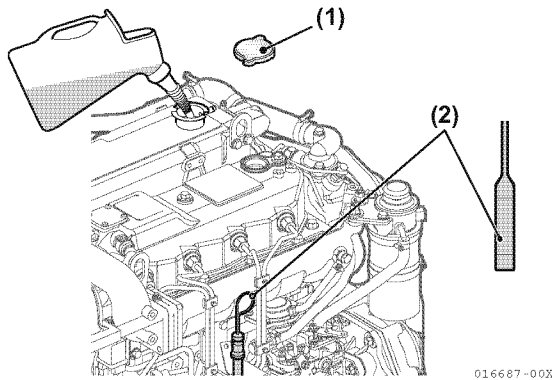
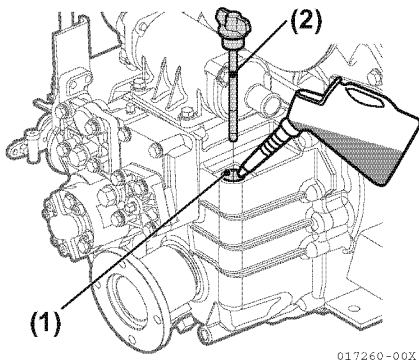

Figure 5-201
Figure 5-202
75. Fill the engine with lubricating oil from the supply port on top of the gear case or the rocker arm cover and fill the marine gearbox from the supply port on top of the reduction gear case (Figure 5-201) and (Figure 5-202).